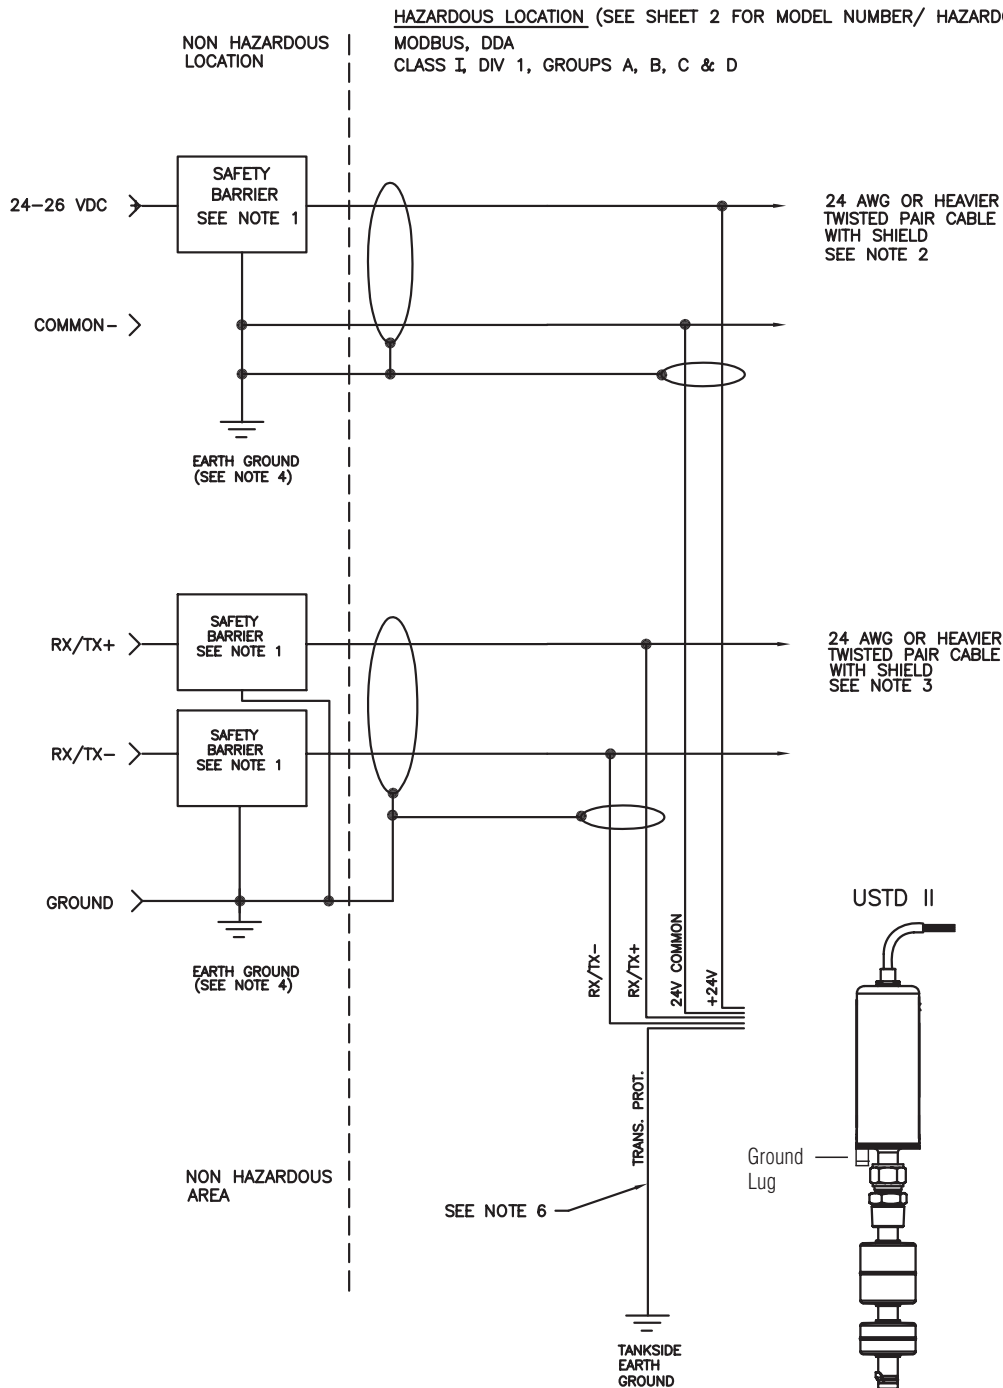

Figure 16. USTD II installation drawing
**INSTALLATION DRAWING NOTES (FIGURE 16)**